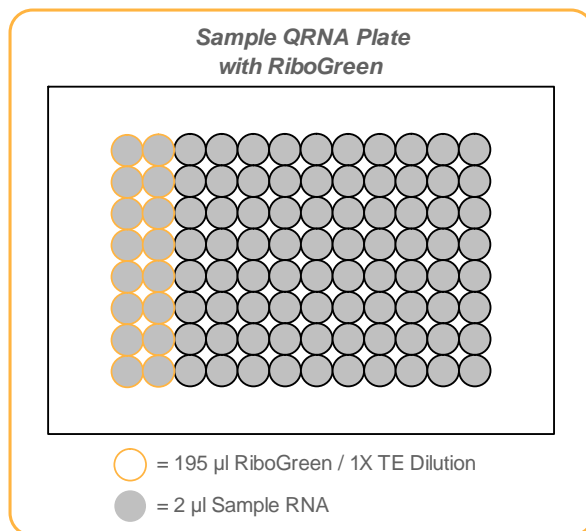

Figure 13 Sample QRNA Plate with RiboGreen
1. Using a multichannel pipette, transfer 195 μ l RiboGreen/1X TE dilution into each well of columns 1 and 2 of the Fluotrac plate labelled "Sample QRNA" (Figure 13).